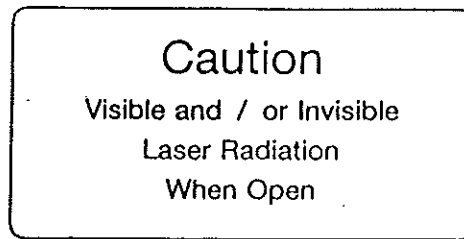

Figure 2.12 Extended box label (UK)
- (6) **EXTENDED BOX LABEL:** The label shown in Figure 2.12 is affixed to the side rail of the laser immediately below the side of the acrylic cover used on extended box versions of these lasers.